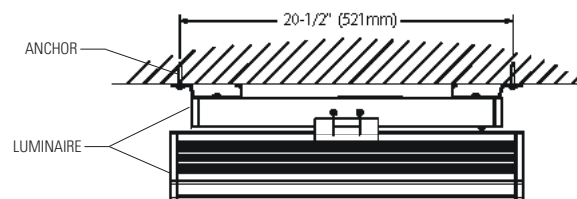

FIG.8
1. Install 2 anchors at 20-1/2 in. (520mm) from luminaire center. (Fig.8)
6. Install screws (not provided) through oblong holes. (Fig.8 & 9)